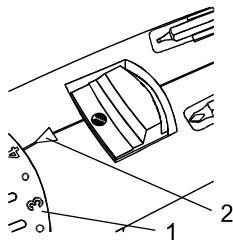

Fig. 6
Set the speed control switch (1) to the desired speed (Fig. 6). Slide the speed control switch toward the rear of the drill for low-speed operation. Slide the speed control switch forward toward the front of the drill for high-speed operation.